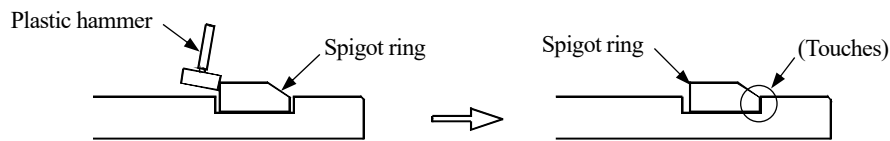

Figure 28 Correct position of spigot ring in the groove
- 3) Tamp the spigot ring lightly with plastic hammer until the tapered side touches the spigot end side wall of the groove (see Figure 28).